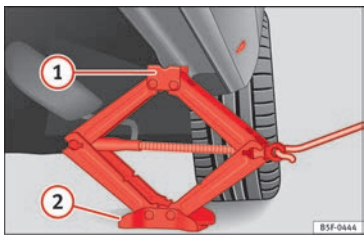

Fig. 74 Strut: mounting the jack on the vehicle.
- Turn the jack* crank handle, located below the strut support point, to raise it until the tab ① » » Fig. 74 is below the housing provided.
- Align the jack* so that tab ① “grips” onto the housing provided on the strut and the mobile base ② is resting on the ground. The base plate ② should fall vertically with respect to the support point ①.